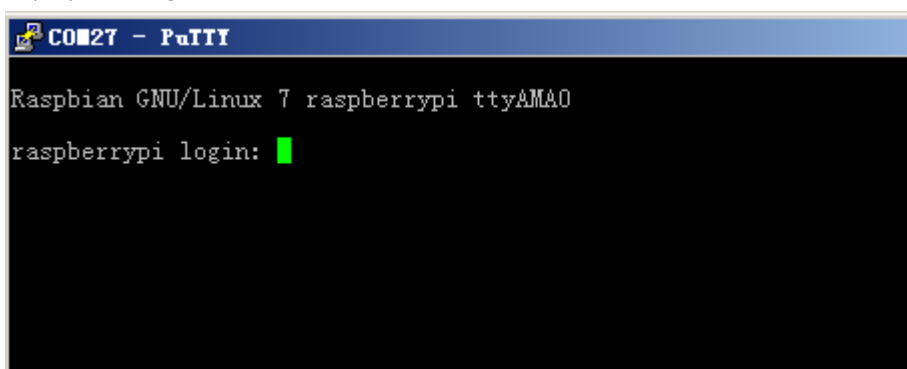

Figure 4: Connecting PuTTY to Raspberry Pi board
- 5) Then, you will see a window popped up as Figure 4 shows (If there is nothing shown in the window, please press the key `Return Carriage`, then you can see the information displayed as Figure 4 shows).